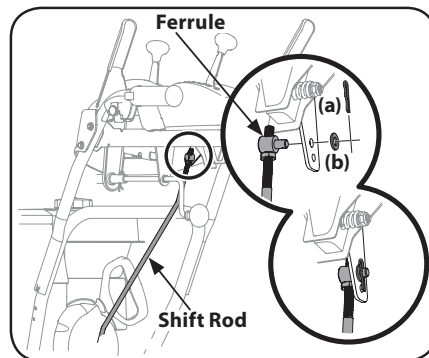

Figure 2-36
8. Remove cotter pin (a) and washer (b) from ferrule on end of shift rod. See Figure 2-36 inset.